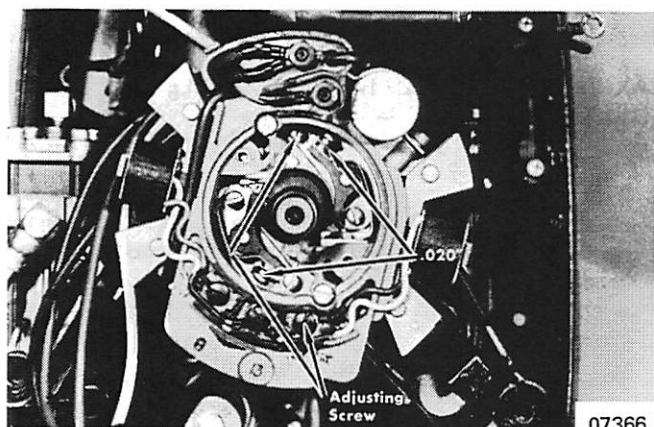

Figure 1. Point Adjustment
3. Rotate crankshaft to position contact point cam follower at high point on cam. Adjust point to .020". (Figure 1)